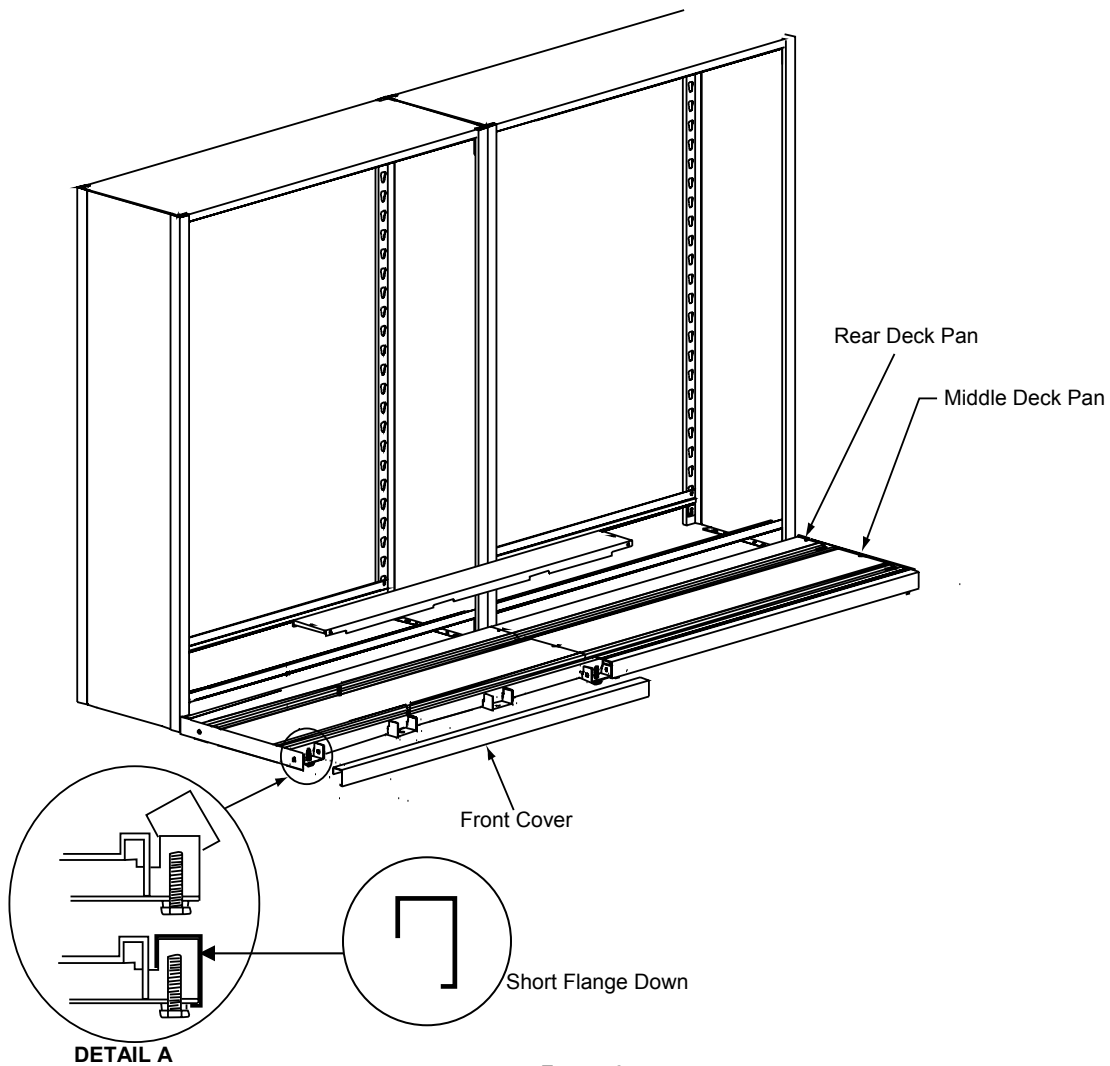

FIGURE 3
- STEP 1** Install the Rear Deck Pans, the Deck pan sections interlock with the Deck assembly. The Rear Deck Pans should be flush with the top of the Deck when properly installed. **See Figure 3.**
- STEP 2** Install the Middle Deck Pans, the Deck pan sections interlock with the Deck assembly. The Middle Deck Pans should be flush with the top of the Deck when properly installed. **See Figure 3.**
- STEP 3** Attach the Front Cover to each Deck section by snapping the Front Cover over the front Deck cross-members. Make sure that the short flange is down. **See Figure 3, Detail A.** Repeat this step for remaining Deck sections.